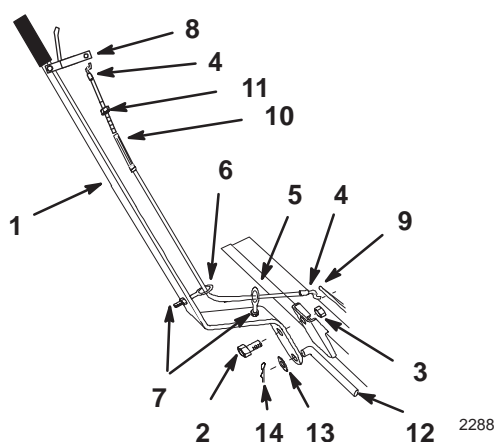

Figure 3
5. Attach index lever to frame bracket with 1/2 x 1" bolt and 1/2" nut (Fig. 3).
6. Install eye bolt and eyelets with (2) #10 washers and (2) #10 lock nuts (Fig. 3).
7. Thread jam nut and turnbuckle onto cable and hook into handle lever (Fig. 3).
8. Route cable through eyebolt and eyelet and attach Z end to back hole of index plate (Fig. 3).
9. Adjust turnbuckle so the index pin is pulled out of channel when the release lever is squeezed, for easy side-to-side movement (Fig. 3). Tighten jam nut securely.
10. Attach one end of control rod to index lever with 1/2" washer and hairpin cotter. (Fig. 3).